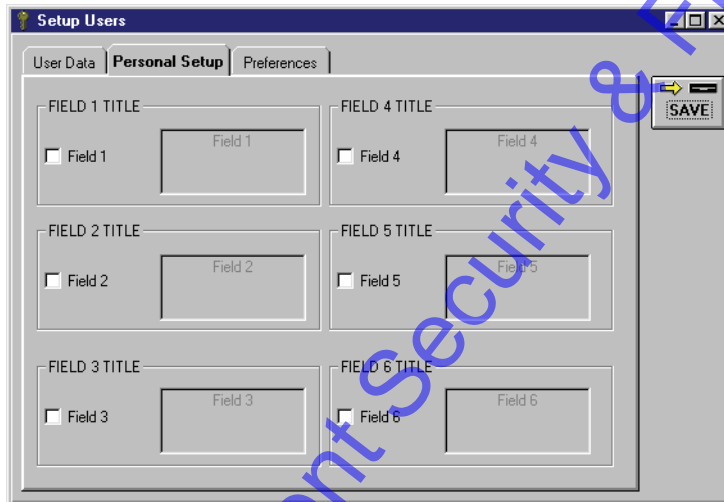

Figure 4-20: Personal Setup Tab
1. Click on the **Personal Setup** tab. The resulting window should look similar to Figure 4-20.